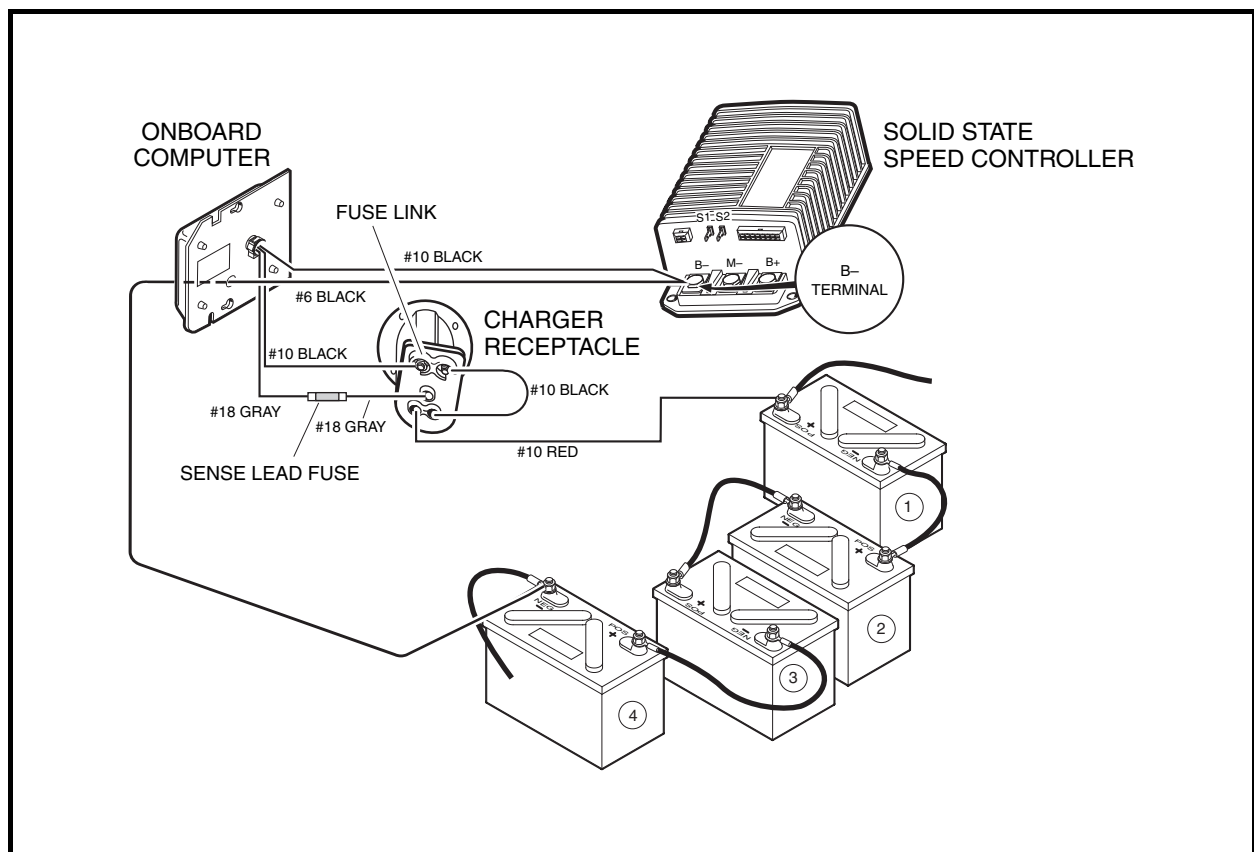
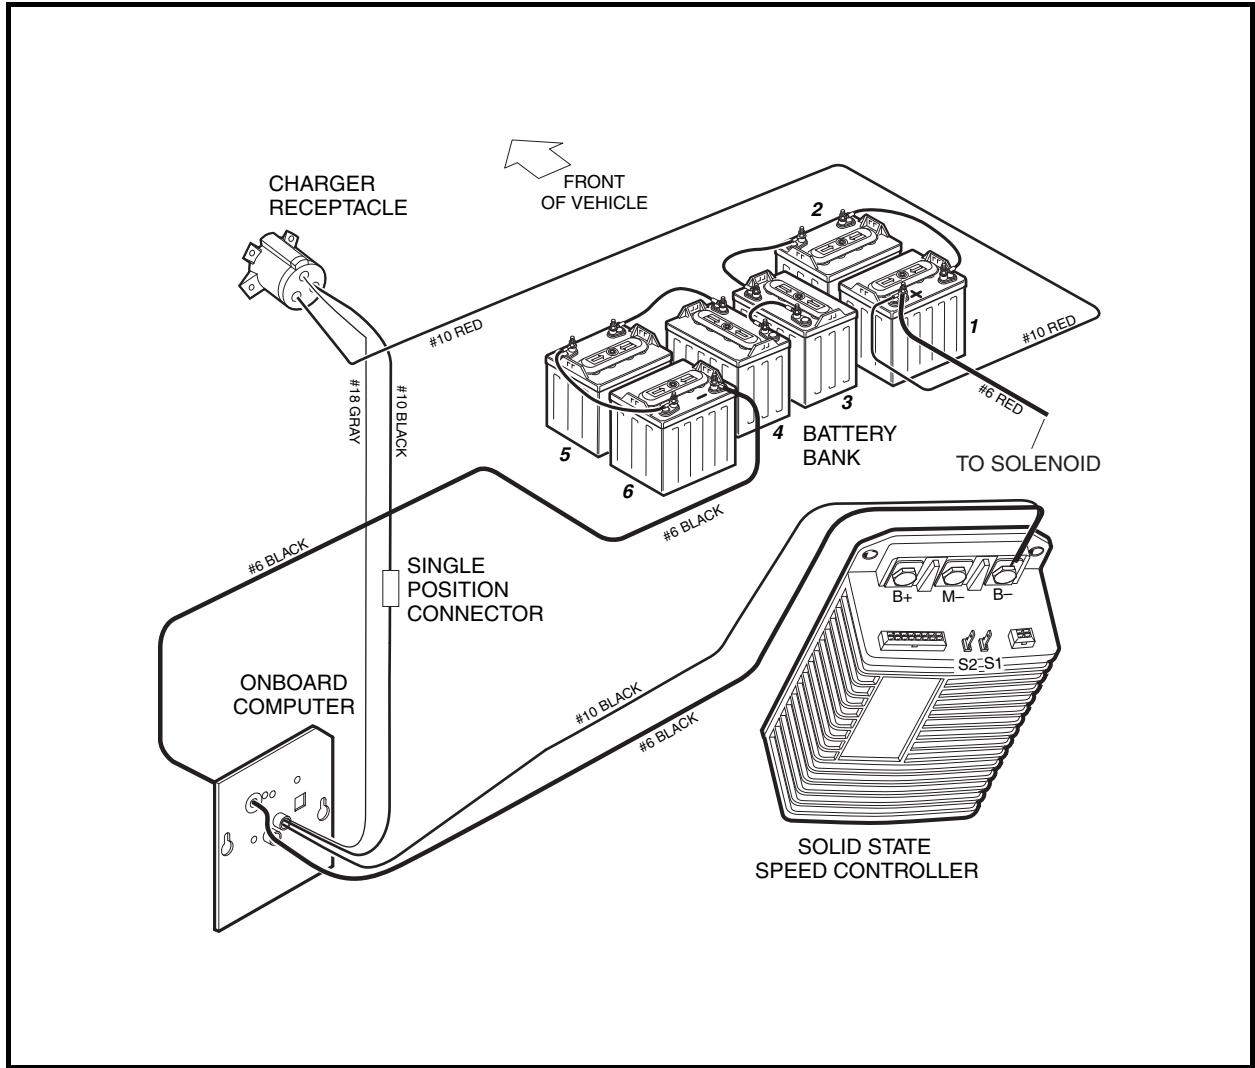
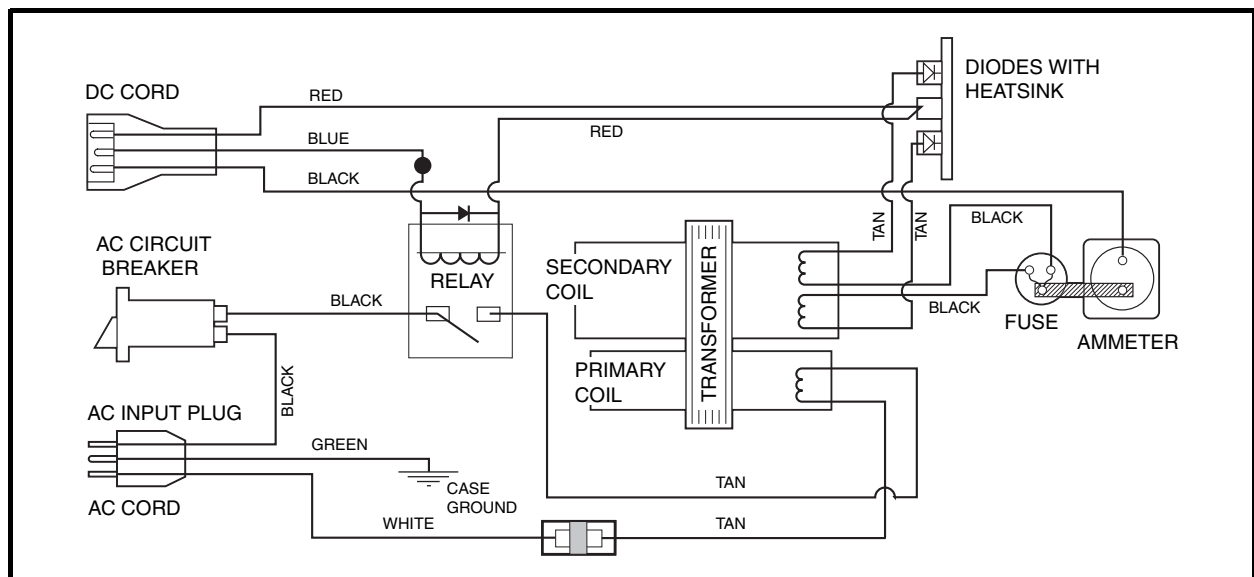
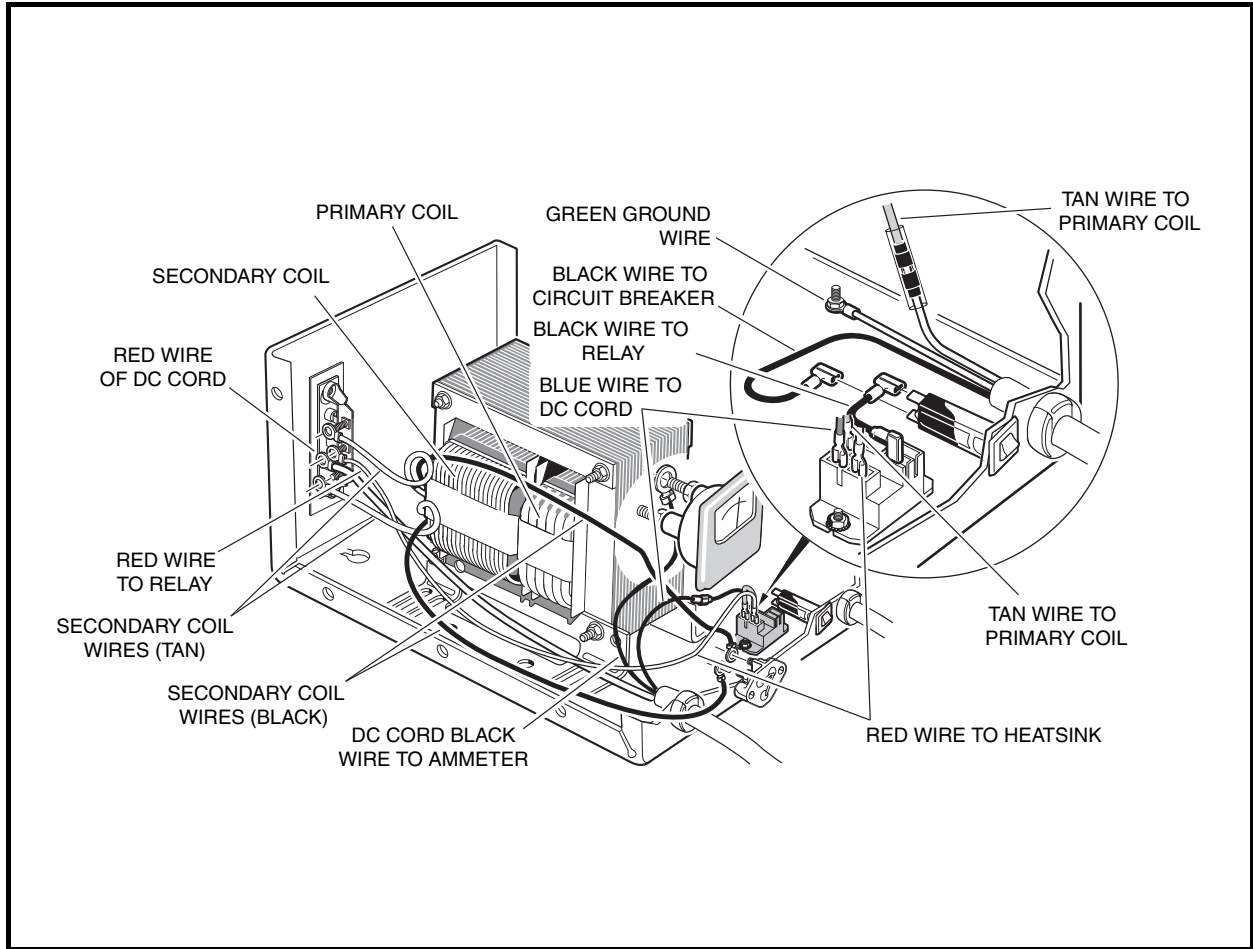

Figure 3-2 Charge Circuit and Battery Configuration – DS, DS Villager 4, 800, 810 and 850
Figure 3-6 Charge Circuit and Style C Battery Configuration – 6 x 8-Volt Precedent Vehicles
Figure 3-9 PowerDrive Battery Charger Wiring Diagram (External Charger)
Figure 3-10 PowerDrive Battery Charger
The negative terminal of the receptacle is connected to the onboard computer (**Figure 3-2, Page 3-3**). The 10-gauge black wire from the onboard computer connects to the B- terminal on the speed controller, and the 6-gauge black wire (also on the controller B- terminal) goes through the onboard computer and connects to the negative (-) post of battery no. 4. The positive terminal of the charger receptacle is connected to the positive (+) post of battery no. 1. The gray wire (sense lead) from the charger receptacle is connected to the sense lead fuse, which is connected to the gray wire from the onboard computer.
The negative terminal of the receptacle is connected to the onboard computer (**Figure 3-6, Page 3-7**). The 10-gauge black wire from the onboard computer connects to the B– terminal on the speed controller, and the 6-gauge black wire (also on the controller B– terminal) goes through the onboard computer and connects to the negative (–) post of battery no. 6. The positive terminal of the charger receptacle is connected to the positive (+) post of battery no. 1. The gray wire from the onboard computer is connected to the charger receptacle.
3. If the charger does not operate exactly as described above, refer to the wiring diagram and make sure that the vehicle is wired correctly (**Figure 3-2, Page 3-3 through Figure 3-6, Page 3-7**) and that the internal charger wiring is correct (**Figure 3-9, Page 3-11**).
- Knowledge of battery charger wiring and component terminology is required before attempting any repair (Figure 3-9, Page 3-11 and Figure 3-10, Page 3-15).